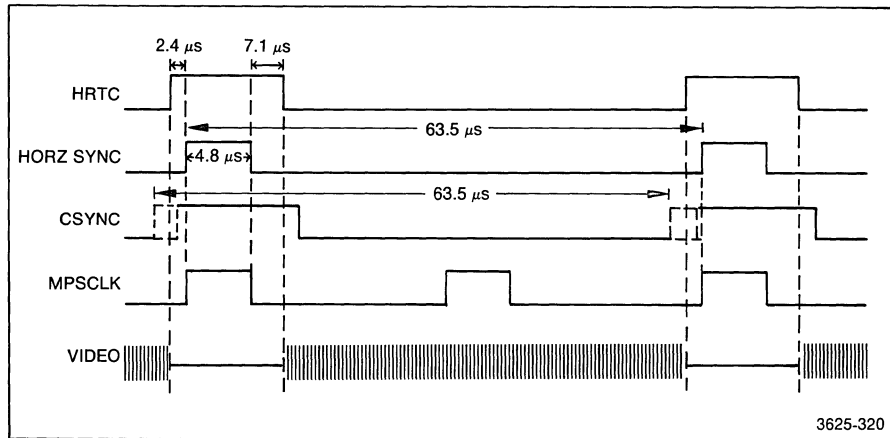

Figure 4-24. Horizontal sync timing for the color monitor.
HRTC(H) creates the first MPSCCLK through inverters U603A and U603C, and AND gate U300A. At the same time, HORIZ SYNC(H) loads counters U500 and U600. When the count reaches 10 0000 binary, pin 2 of U405 goes high, allowing U515 to clock out a MPSCCLK in between the clock pulses of either HORIZ SYNC(H) or CSYNC(H) (see Figure 4-24).
The S100 switches (1,2, and 3) determine the number of counts U521 will count before CSYNC(H) is clocked out. (see Figure 4-24)